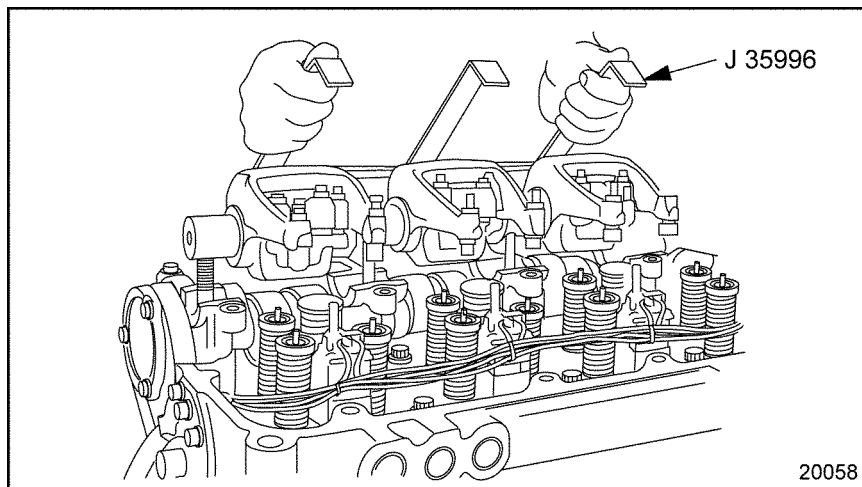

Figure 3-1 Rocker Arm/Shaft Assembly Removal/Installation
7. Remove all the rocker shaft mounting bolts and nut from the front or rear rocker shaft assembly. Using rocker arm lifter (J-35996-A), see Figure 3-1, lift the assembly straight up and off of the head and place in a clean area on the bench.